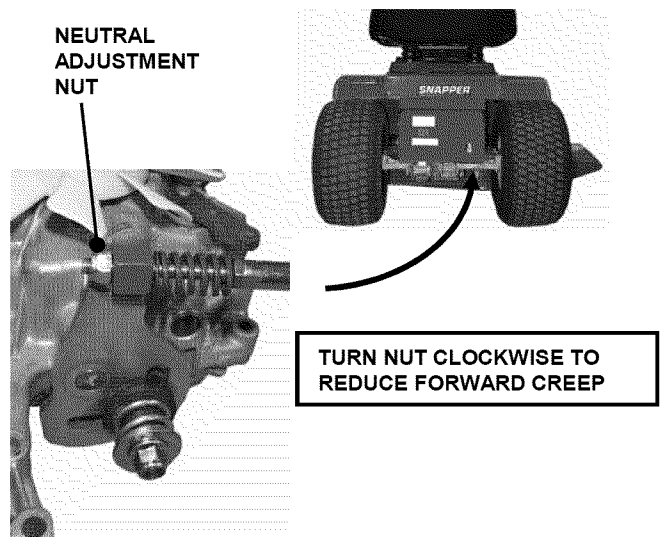

FIGURE 4.20
3. Locate neutral adjustment nut underneath the right rear of the tractor. See Figure 4.20